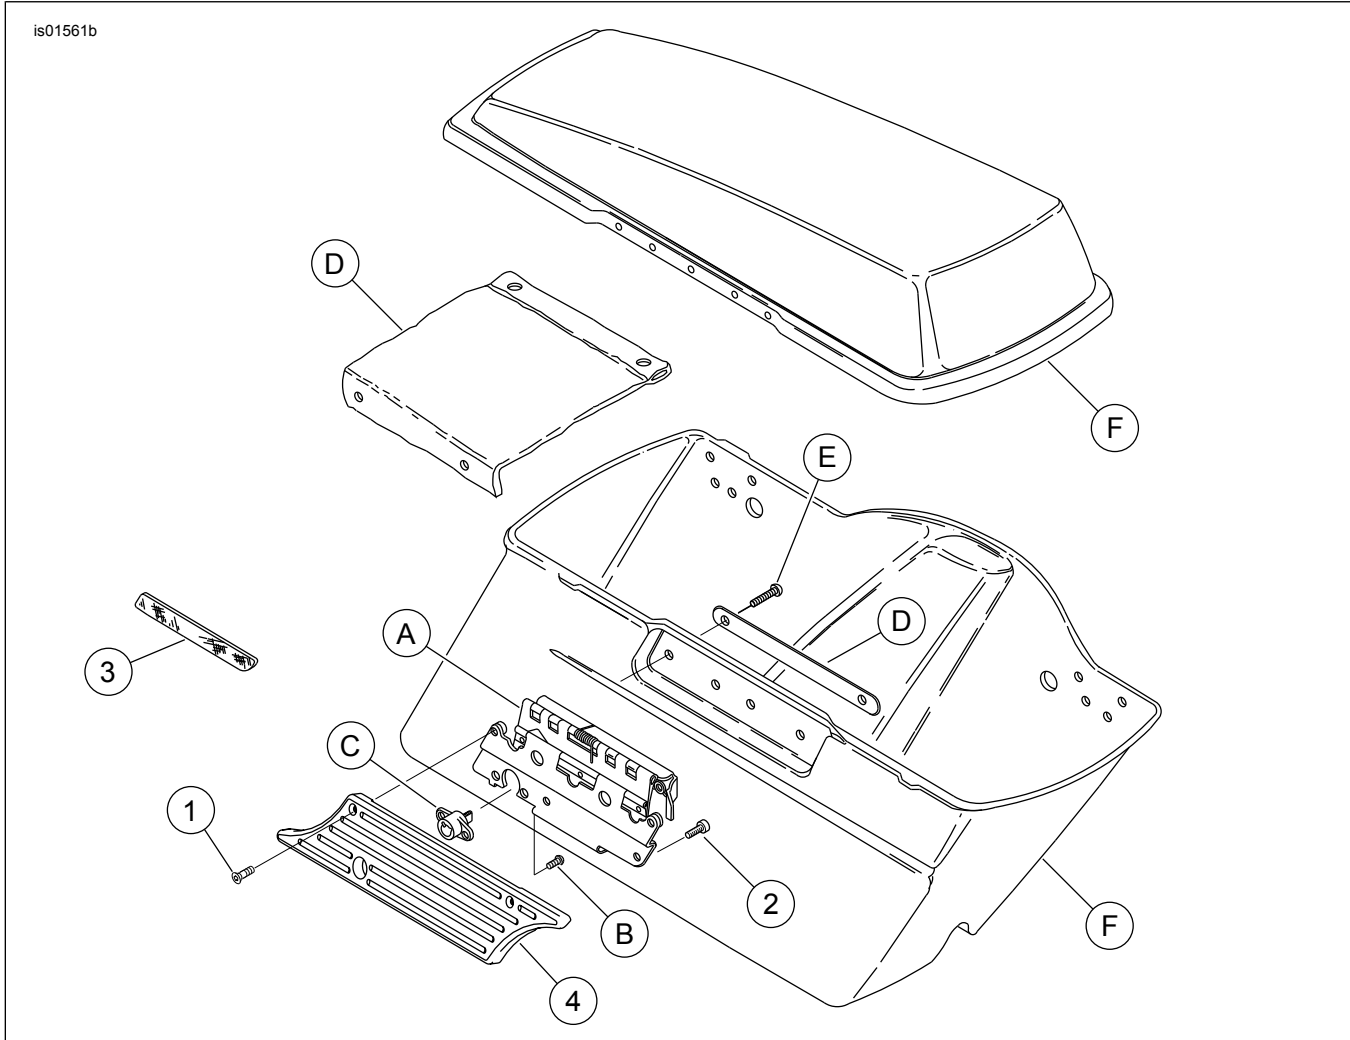

Figure 5. Service Parts: Saddlebag Latch Faceplate Kit
See Figure 5 and Table 1.
2. See Figure 5. Apply Loctite 243 (blue) to threads of two screws (1) from kit.
3. Loosely install faceplate (4) on latch assembly (A) with two screws (1).
4. Rotate the latch assembly (A) so the faceplate is facing down.
5. Apply Loctite 243 (blue) to threads of two TORX screws (B) previously removed from lock assembly (C).
6. Loosely install lock assembly (C) on latch assembly (A) using two TORX screws (B).
7. Apply Loctite 243 (blue) to threads of cap screw (2) and install on opposite side of faceplate.
8. Tighten TORX screws (B) that attach lock assembly (C) securely.
9. Tighten screws (1) that attach faceplate to latch assembly (A) securely.
10. Install latch assembly (A) to saddlebag (F) with previously removed TORX screws (E). Tighten TORX screws securely.
11. Install check strap (D) and latch assembly (A) to saddlebag (F) with previously removed TORX screws (E). Tighten TORX screws securely.